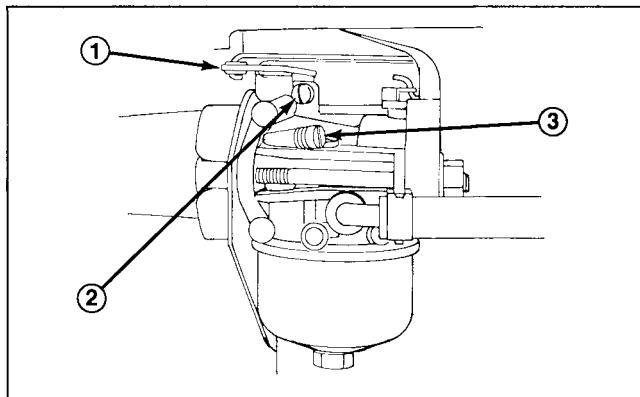

Figure 20
1. Gently turn idle mixture valve clockwise until it just closes (Fig. 20). Turning valve in too far may cause damage.
4. Rotate throttle (Fig. 20) counterclockwise and hold against idle speed adjusting screw (Fig. 20) while